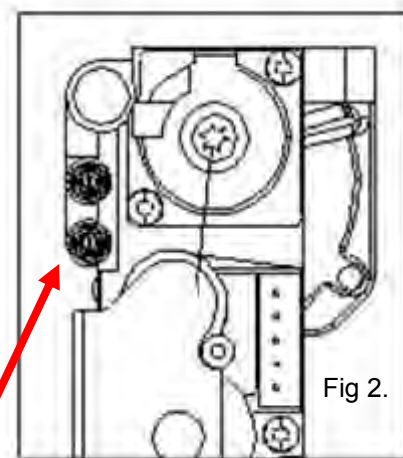

Fig 2.
- Open the filling tap **R** (fig. 2);
- Use the pressure gauge **M** (fig. 2) to check that the system pressure reaches the middle of the green section (14.5 psi = 1 bar) and that the code H2O does NOT appear on the control panel display (see 2.7 section 'Control Panel');
- turn the system drain tap RS (see fig. 2) and use a container to collect the water that runs out;
- Check gas pressure at gas valve inlet pressure tap. SEE Fig 2. Set gas pressure to proper level at the regulator (Refer to section 2.1 Technical Data). Gas pressure adjustments must be performed while the appliance is in “Flue Test Function” mode (maximum firing rate). Allow the boiler to fire in the heat mode. Press and hold the “S” button until “07” flashes on the screen. Do NOT make any adjustments to the gas valve itself.